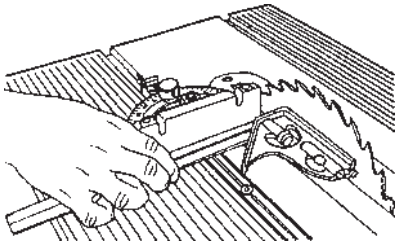

Figure B-82
- 52. Put the miter gauge in the right slot and place the combination square against the saw blade and miter gauge face, as seen in Figure B-82.